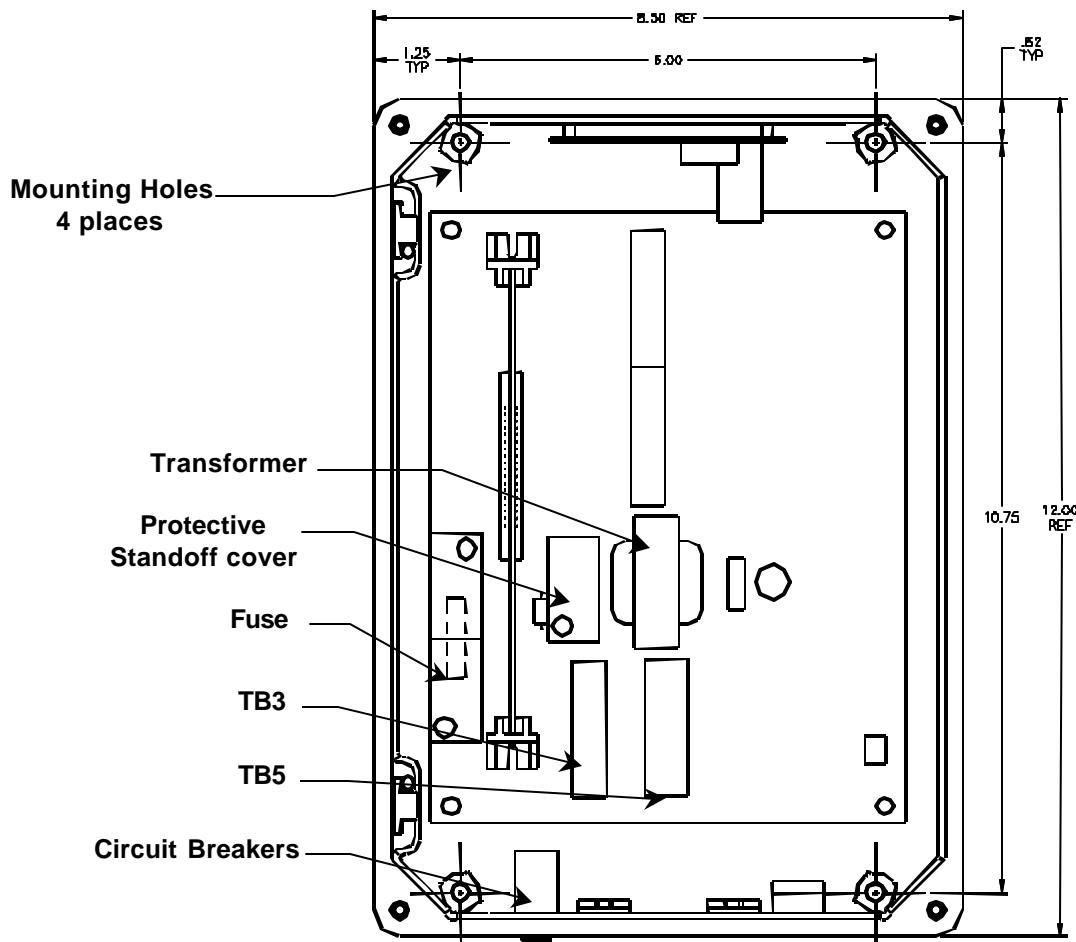

Figure 2: Mounting Dimensions
1. Choose a suitable location for mounting the electronics control unit. See Figure 2 for mounting dimensions. NOTE: All dimensions are given in inches.